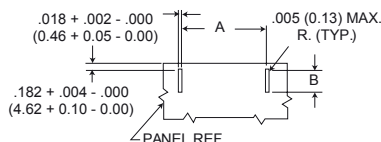

Figure 4 Edgeboard Mounting
3. Figure 4 is for edge board mounting bracket or edgeboard clip assembly. The .184 + .002 (2.67 + .05) dimension locates the MD socket insulator flush with the end of the board.